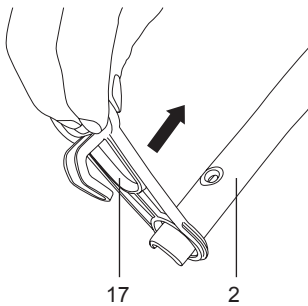

Fig. 6
- Slide the cord strain relief (17) onto the upper handle bar (2) (the side of handle with two holes) before assembly (Fig. 6&7).